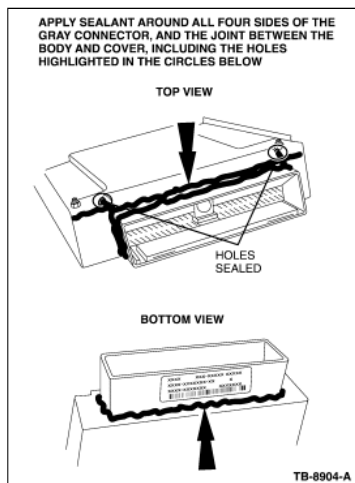

Figure 9 - Article 07-14-1
- Apply Motorcraft TA-29 Ultra Silicone Sealant around all four sides of the gray header where it meets the PCM sheet metal. (Figure 9)